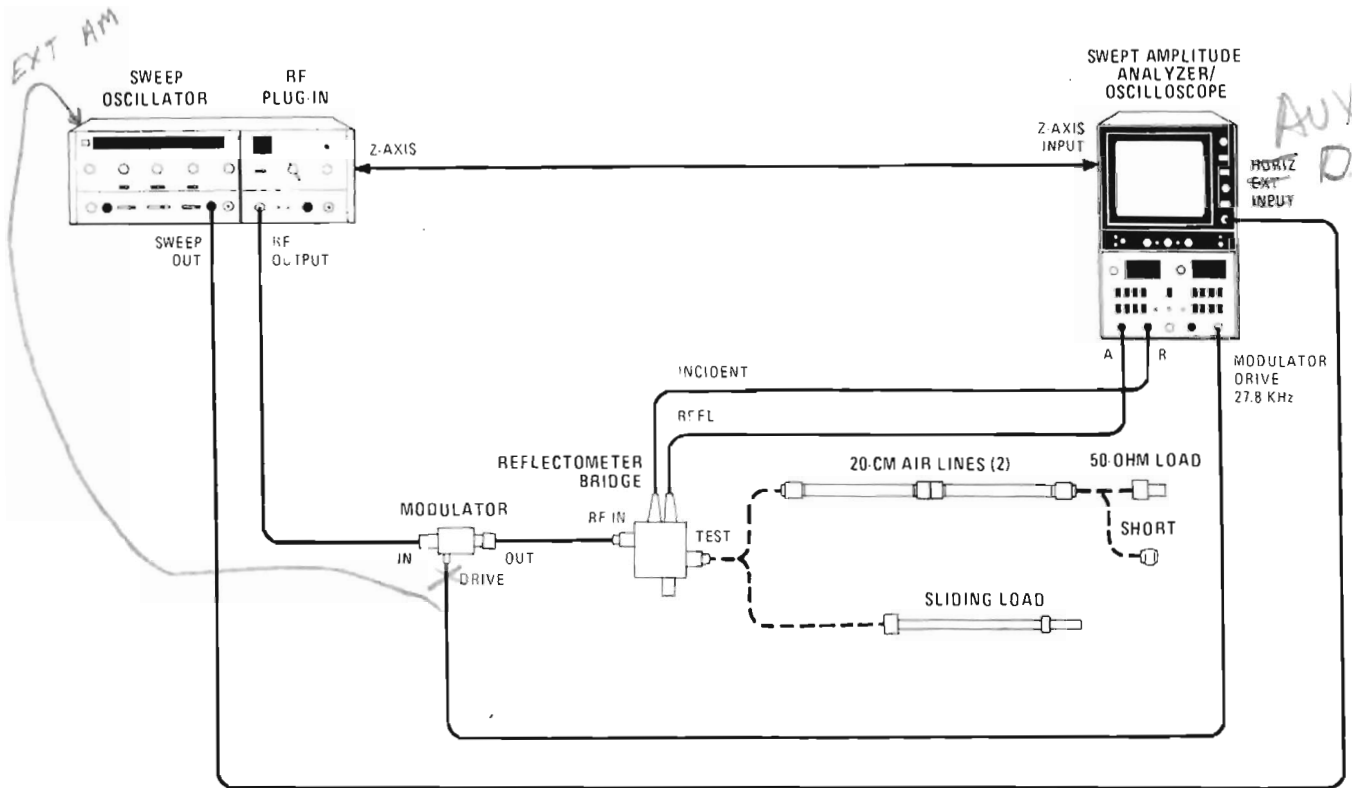

Figure 4-1. Equivalent Directivity and Output SWR Test Setup
- a. Connect equipment as shown in Figure 4-1 using the 86222A RF Plug-in.